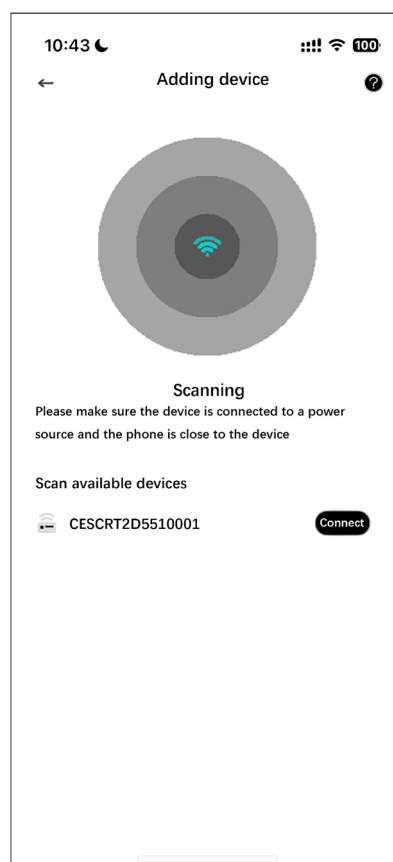

Figure 8
5.2.8 Add Device (see Figure 8)